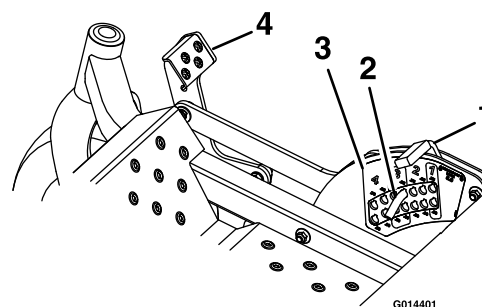

Figure 15
4. Raise and lock the deck to the 5 inch (12.7 cm) transport position (Figure 15).